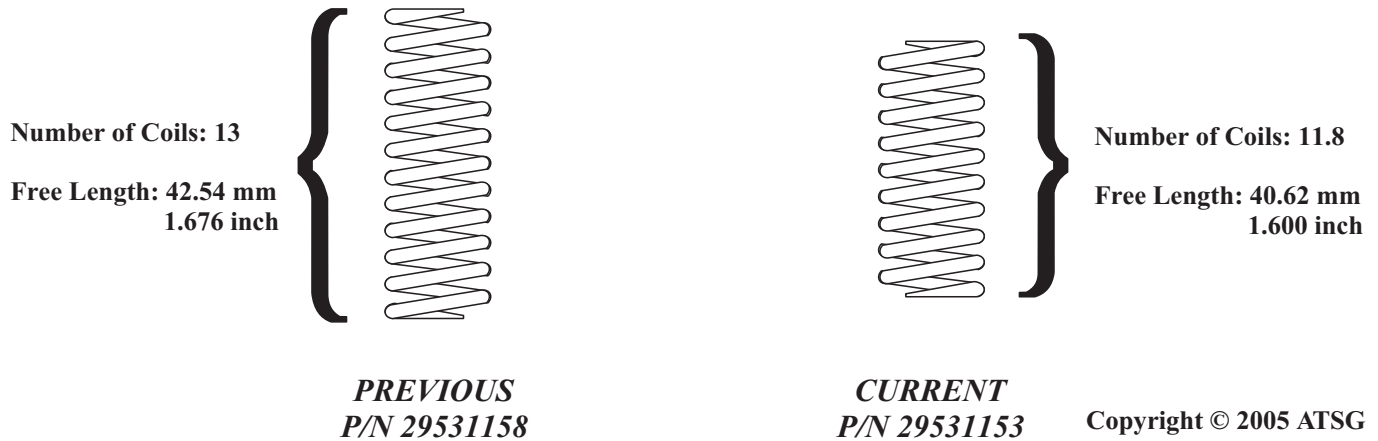

Figure 7
- (5)The Control Main Regulator and Control Main Relief Springs have changed demensionally as shown in Figure 7.